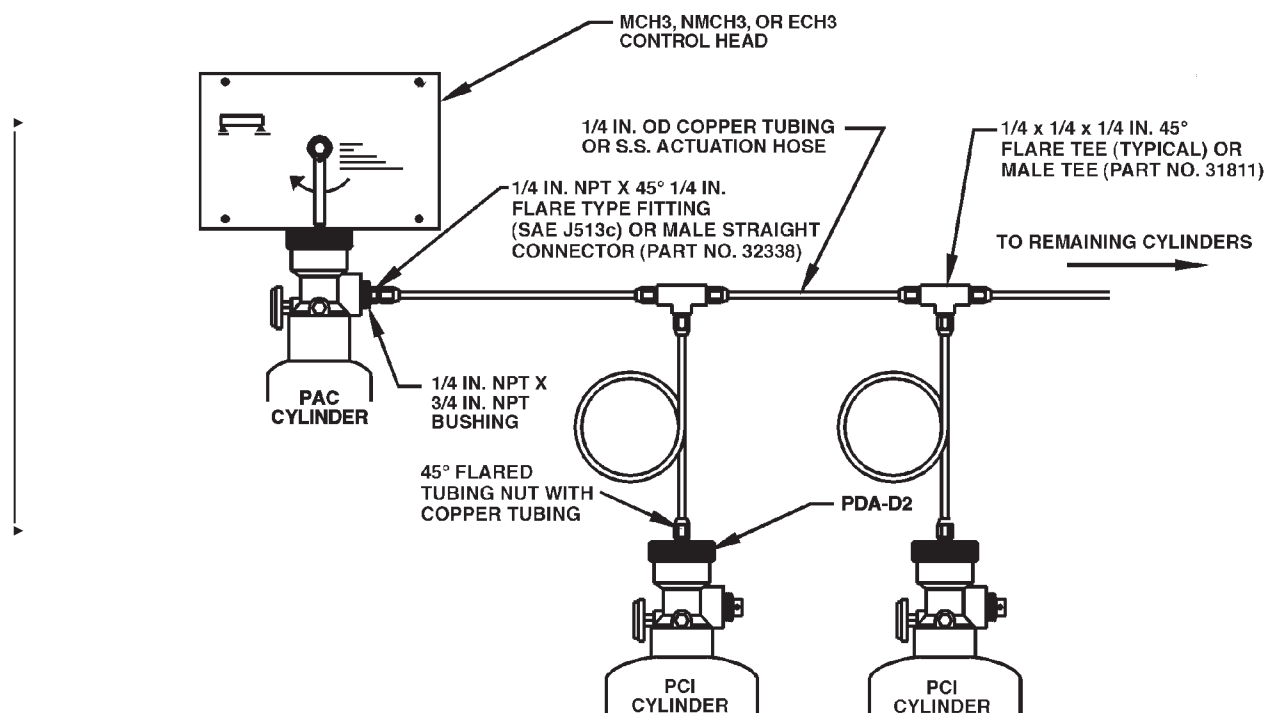

Figure 4-5. Multiple Cylinder Actuation Using Model PAC-10 or PAC-200.
- In order to actuate the agent cylinders from a Model PAC-10/200 Pneumatic Actuation Cylinder, a 3/4 in. NPT x 1/4 in. NPT bushing must be screwed into the pneumatic cylinder's discharge port. A 1/4 in. NPT x 45° 1/4 in. flare type fitting (conforming to SAE J513c) must then be screwed into this bushing. The male straight connector (Part No. 32338) is used with stainless steel actuation hose. Also, a Model PDA-D2 Pneumatic Discharge Adaptor must be installed on the valve of each agent cylinder. Pneumatic or stainless steel tubing is then used to connect the PAC-10/200 pneumatic cylinder to the PDA-D2 of each agent cylinder valve. See **Figure 4-5**.